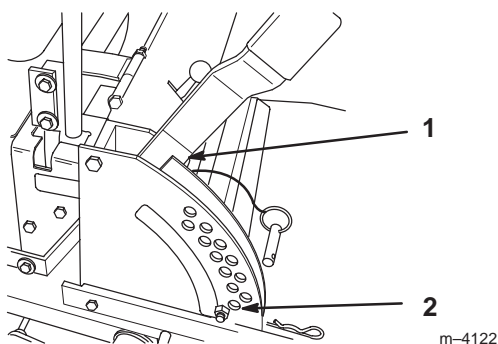
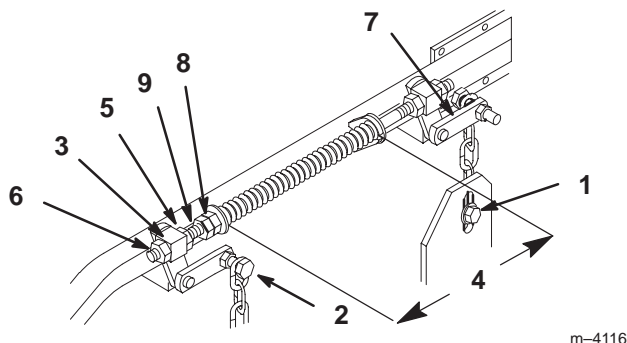

Figure 40
Figure 41
- Check tire pressure of all four (4) tires. If needed, adjust to 13 psi (90 kPa)
- Raise the deck to the transport position (Fig. 40). Take force off of the two large deck lift springs by loosening jam nut and front spring nut, in front of each spring, as far as possible (Fig. 41).
- Place two 1-3/8" (35 mm) thick blocks under rear left and right lower edge of mower. Place one 1-3/4" (44 mm) block under front center lower edge of mower. Not under anti-scalp roller brackets. Lower mower to the 1-1/2" (38 mm) height-of-cut position (Fig. 40).
- Loosen bottom chain bolt in slot at rear of deck. Repeat for opposite side (Fig. 41).
- Loosen front and rear locking nut on either side of front swivel. Loosen until front chains are loose and deck is supported by blocks. Repeat for opposite side. (Fig. 41).
- When hardware is loosened, remaining tension in the large support springs will tend to rotate the deck lift handle up, out of the 1-1/2" position. Press down on the rear deck support arm to firmly return the deck lift handle to the 1-1/2" position (Fig. 41).
- While continuing to press down on rear deck support arm, take the slack out of the rear chain and tighten hardware at the bottom (Fig. 41). Downward pressure may now be released. Repeat for opposite side.
14. Raise deck lift lever to the transport position (Fig. 40).
15. Adjust compression springs by turning the front spring nuts so the distance between the two large washers is 10-1/4" (260 mm). Then tighten jam nut (Fig. 41).